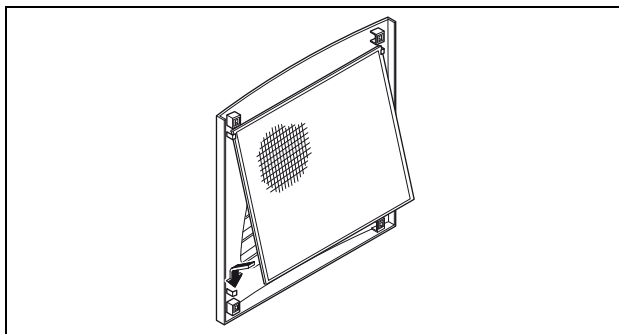

Fig. 13: Install the filter mat
- Insert the filter mat into the louvred grille as shown in fig. 13 and push it back onto the housing.